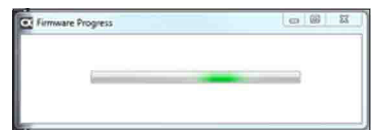

Fig. 120
- The CubeX software will now install the firmware onto the CubeX printer. (Fig. 120)